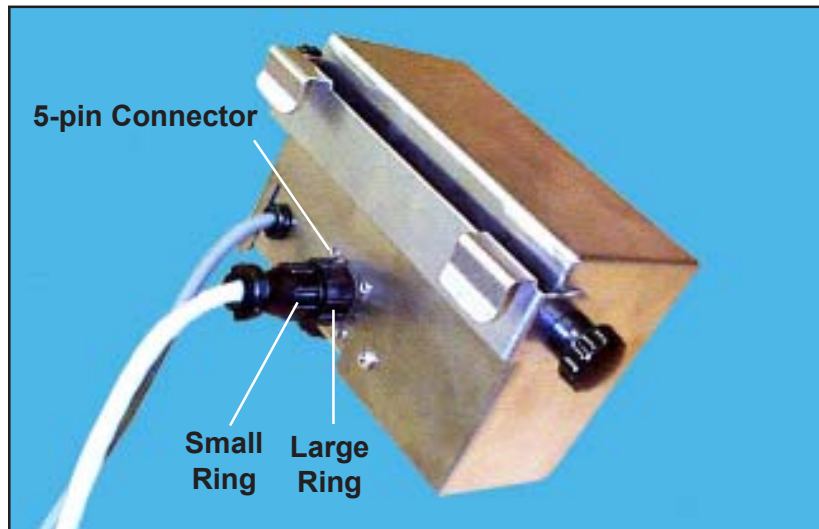

Figure 12. The 5-pin Connector on the Heat Controller
2. On the rear of the heat controller (Figure 12), turn the *large* ring on the 5-pin connector counterclockwise and pull the cable from the connector
Warning: To tighten or loosen the 5-pin connector, **ALWAYS** turn the large ring (Figure 12). **NEVER** turn the small ring. Trying to turn the small ring can tear the pins out of the connector.
5. Making sure that the pins and holes line up correctly, plug the 5-pin plug into the socket in the back of the heat controller and secure the connection by turning the large ring clockwise (Figure 12).